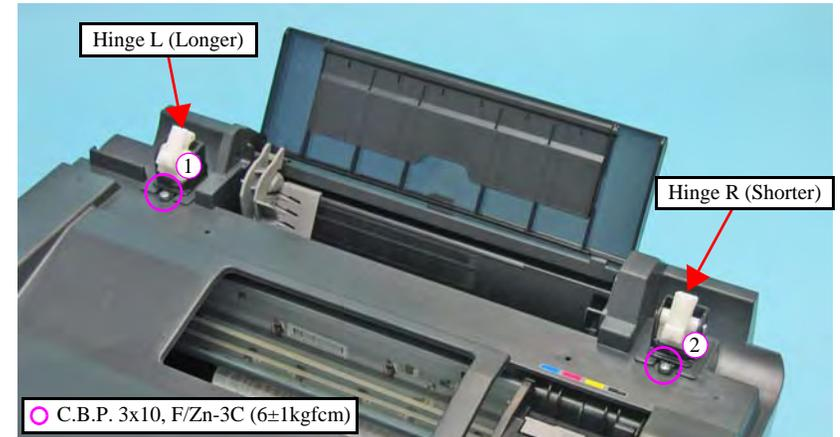

Figure 4-6. Removing the Hinge L/Hinge R
- When installing the Hinge L and Hinge R, tighten the screws in the order given in Figure 4-6.